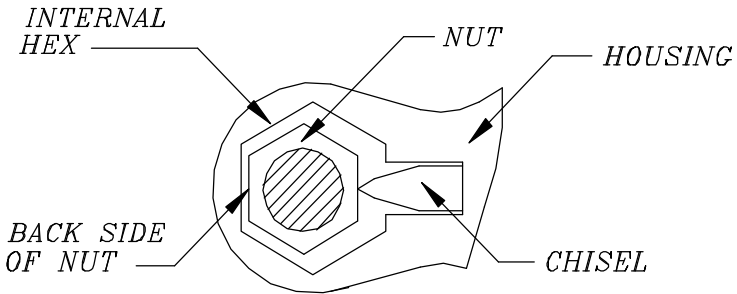

Figure 10
2. Place the internal hex of the housing over the nut. Pull the housing against the back side of the nut, with the nut centered on the back side of the internal hex. The housing of the nut splitter should be flat on the surface of the flange. The cutting chisel should be as close to the bottom of the nut as possible and be centered on a flat of the nut. See *figure 10*.